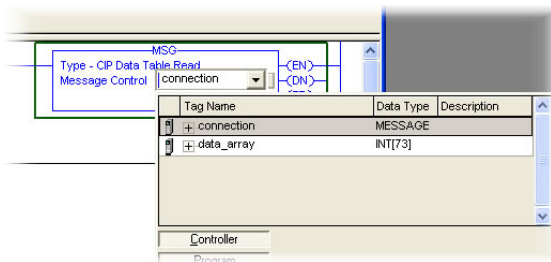

Figure 96: MSG Instruction Tag Assignment
- a) Edit the "Message Control" field on the MSG instruction to use the previously-created "connection" tag. Refer to Figure 96.